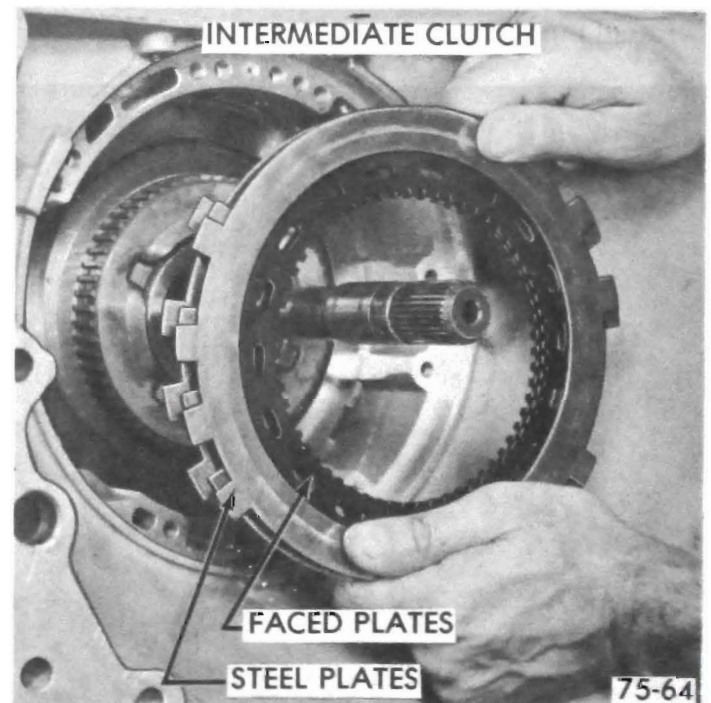

Figure 75-246
2. Oil and install three (3) faced and three (3) steel intermediate clutch plates, starting with a faced plate and alternating steel and faced. See Figure 75-246.